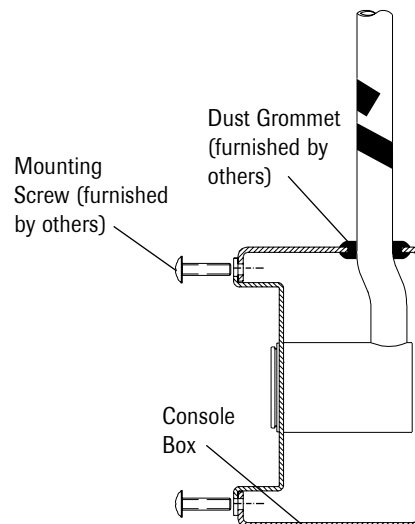

Figure 2
3. Insert the extension tube through the knockout hole. The tube may be bent slightly to allow for proper alignment of the mounting bracket with the console box mounting holes (Figure 2).
4. Secure the bracket to the console box using screws appropriate for the box type. The mounting bracket may be installed on the outside of the box flange or the inside depending on the console type (Figure 2).